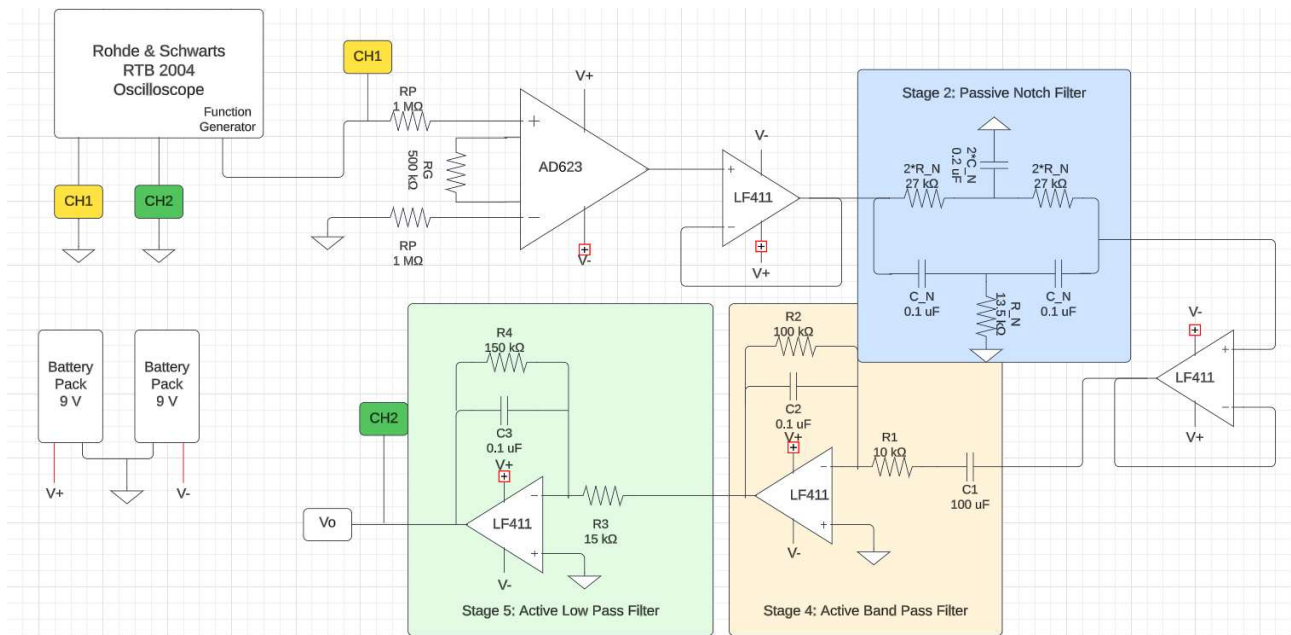

Figure 5: Circuit schematic of ECG circuit with recommended component values as well as power supply set up and measurement set up
5. Once all stages are verified separately, cascade the stages together as shown in Figure\_ with CH1 (yellow) and CH2 (green) placed as shown in Figure 5.